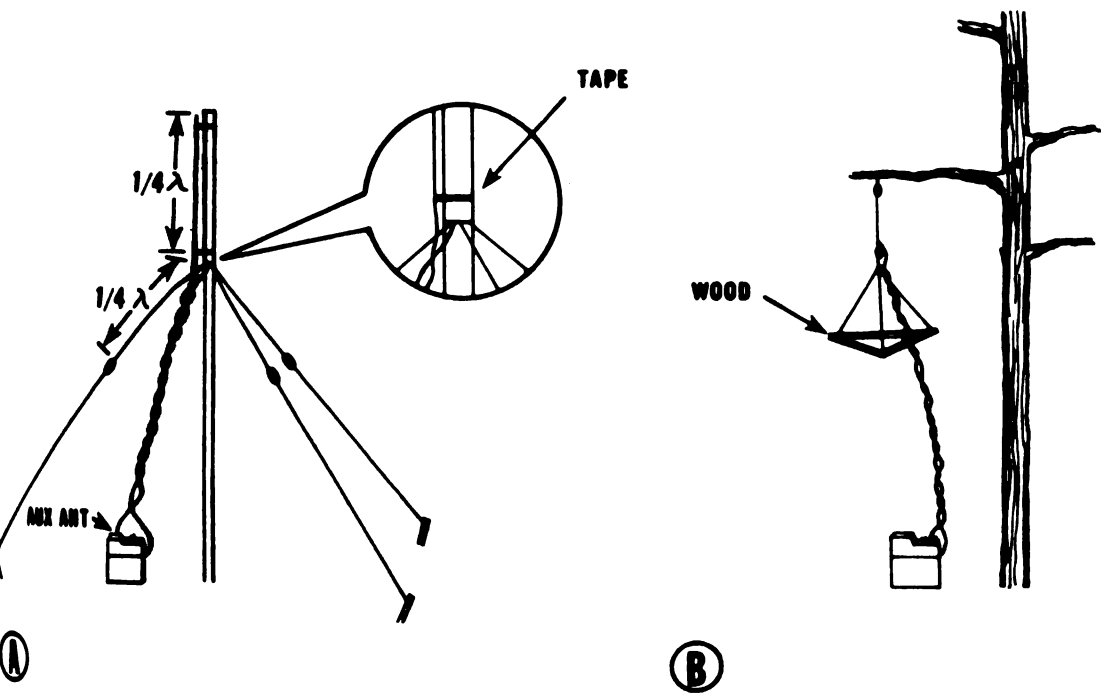
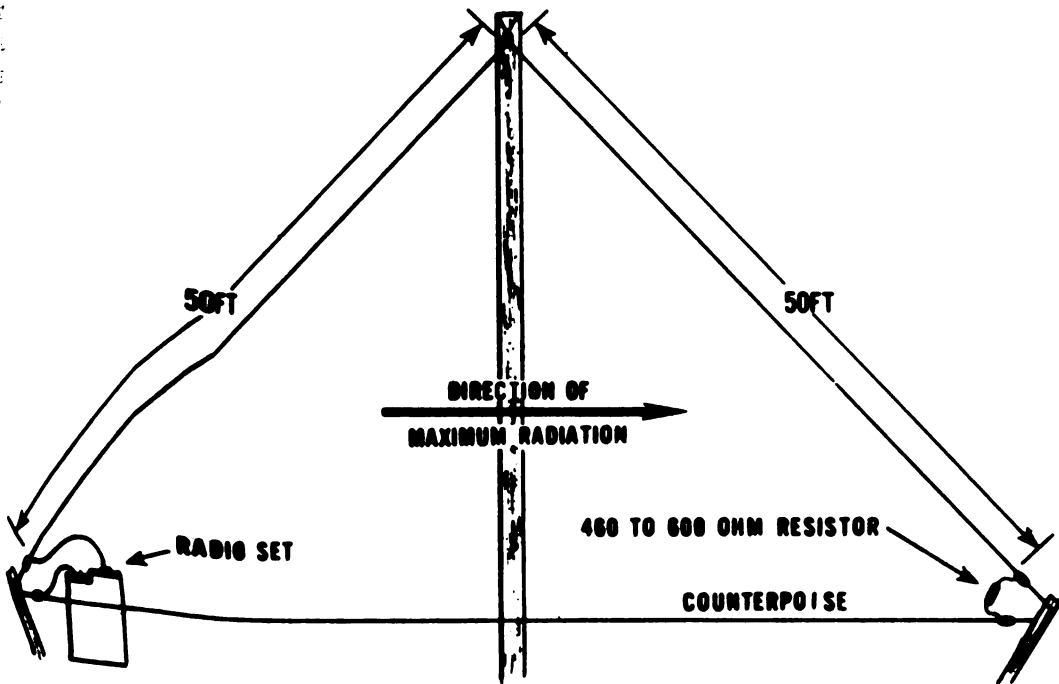

Figure 5. Jungle antenna.
Figure 6. Half-rhombic antenna.
5. Other Antennas. If you are operating outside the normal range of FM Radio sets, an antenna system that will allow communication beyond the normal range of current radios can be constructed by using the jungle antenna (fig. 5) or the half-rhombic antenna (fig. 6).